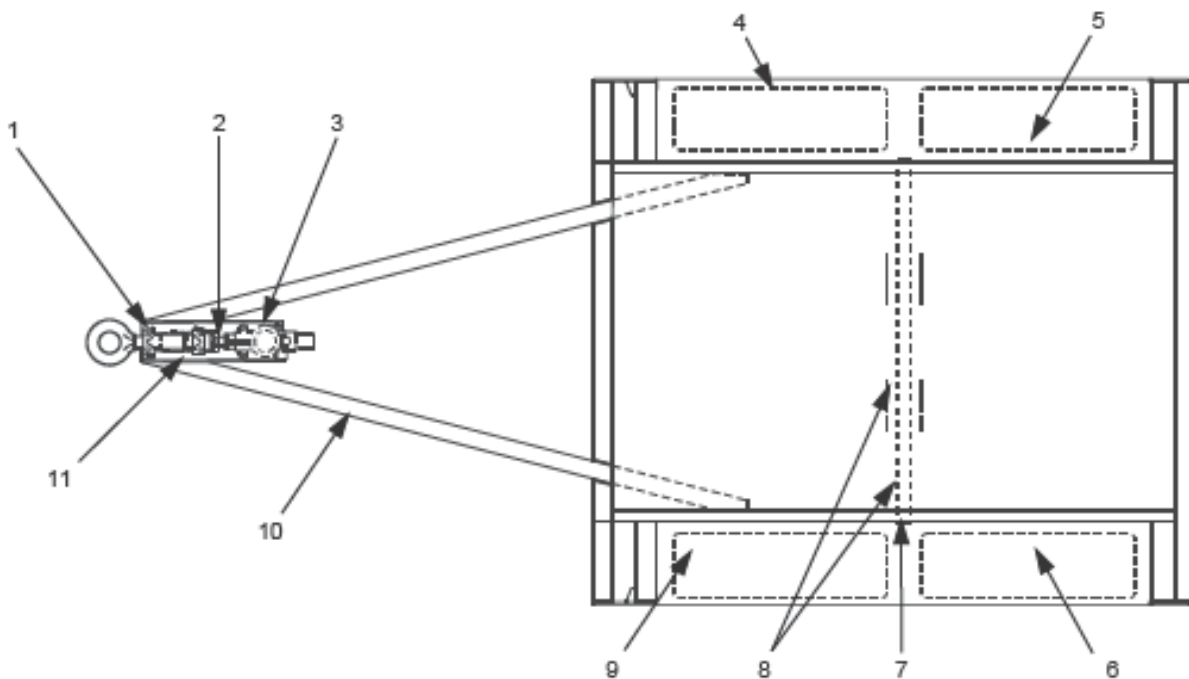

Figure 1 Servicing Points for Trailer, Cargo, Light, MC2, 1250 Kg
1. This EMEI lists the requirements for servicing of the Trailer, Cargo, Light, MC2, 1250 kg (Haulmark). Figure 1 shows the servicing points for the Trailer and Table 1 details the servicing requirements.
Notes- All serial numbers refer to Figure 1.